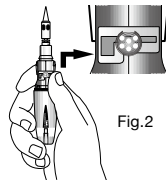

Fig.2
1. Push the **ON/OFF lever** upward and to the right, and set to **mid** position. (Fig. 2)